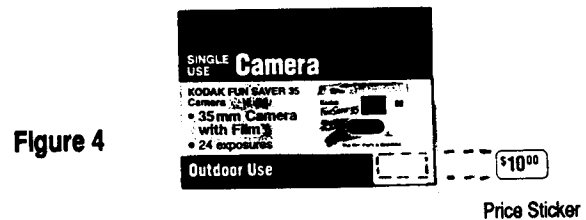

Figure 4
2. Select product identification labels and affix the appropriate price sticker to lower right-hand corner of each Product Identification Label (see fig. 4).